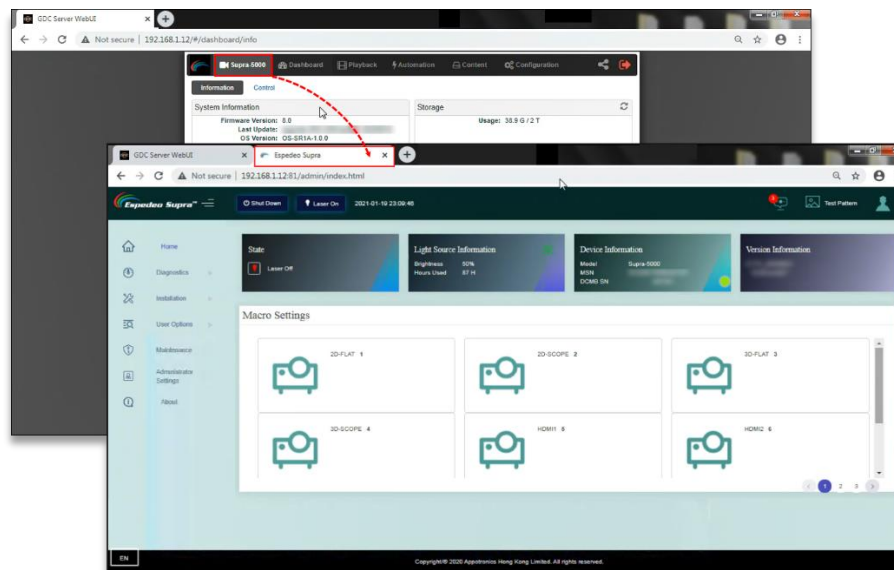

Figure 19: Accessing Supra Command Center when Single tab mode is disabled
- b. When the **Single tab mode** option is disabled; you can click on the **'Supra-5000'** tab to open and access the Supra Command Center web interface in a new browser tab (as shown in **Figure 19**).